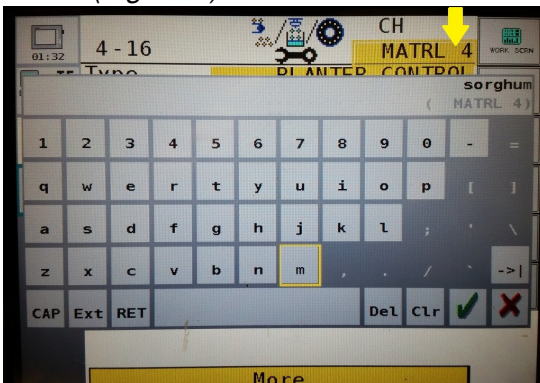

Figure 8
Step 4. Select Material Name and enter name. (Figure 8)